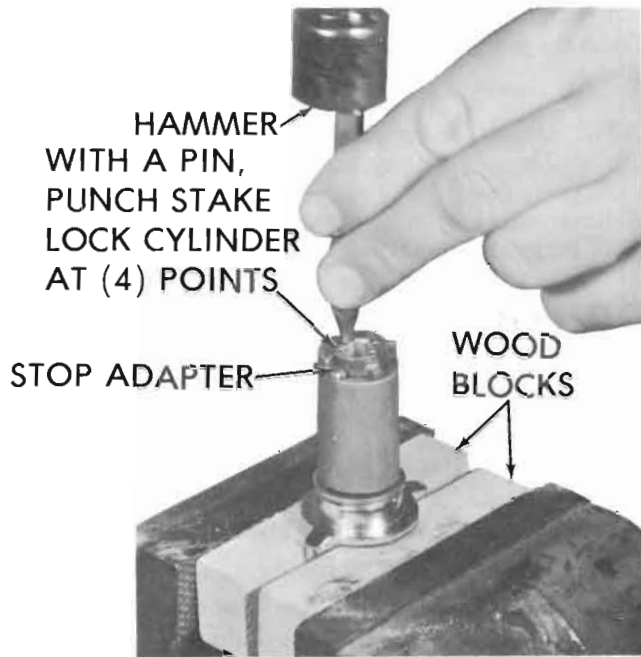

Figure 00-7 Staking Lock Cylinder to Retain Lock Adapter
5. Using a hammer and a small pin punch, stake lock cylinder at four (4) places to retain stop adapter. Do not use force when striking cylinder, as metal is soft and only a light tap with a hammer is necessary. See Figure 00-7.
4. Reverse lock cylinder position in vise and repeat Step 5 for bottom of tumblers. See Figure 00-7.